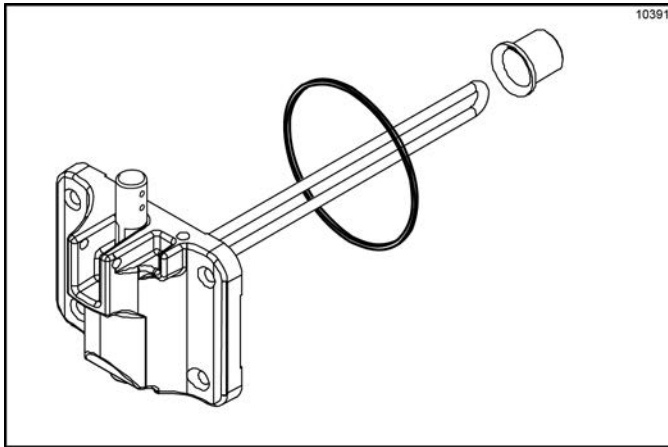

Figure 6-29
13. Place the door gasket into the groove on the back of the freezer door. Slide the front bearing over the baffle rod so the flanged edge is against the door. **Do not** lubricate the gasket or bearing. (See Figure 6-29.)